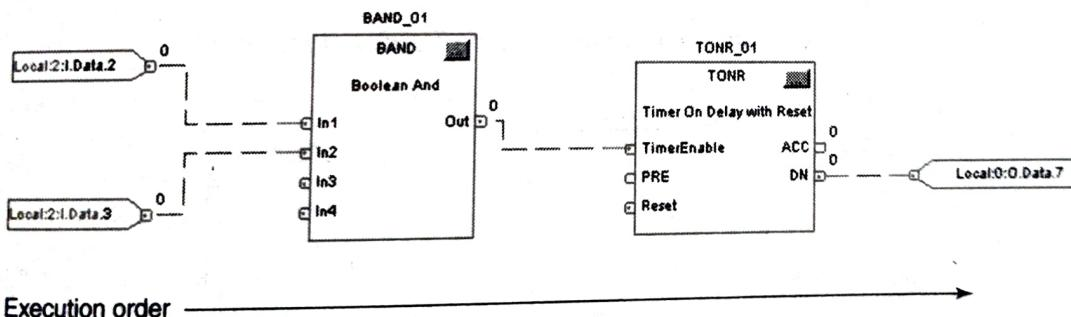

Figure 6-43 Execution order is from input to output in a simple function block diagram.
The order of function block is typically from input to output. Program your function blocks starting with one or more inputs and add additional blocks from left to right. Figure 6-43 illustrates two input references feeding into a BAND function block. The BAND function block feeds into a timer on-delay with reset (TONR). The TONR block’s done output (DN) feeds into the output reference. Here the order of execution is from input to output, or left to right.